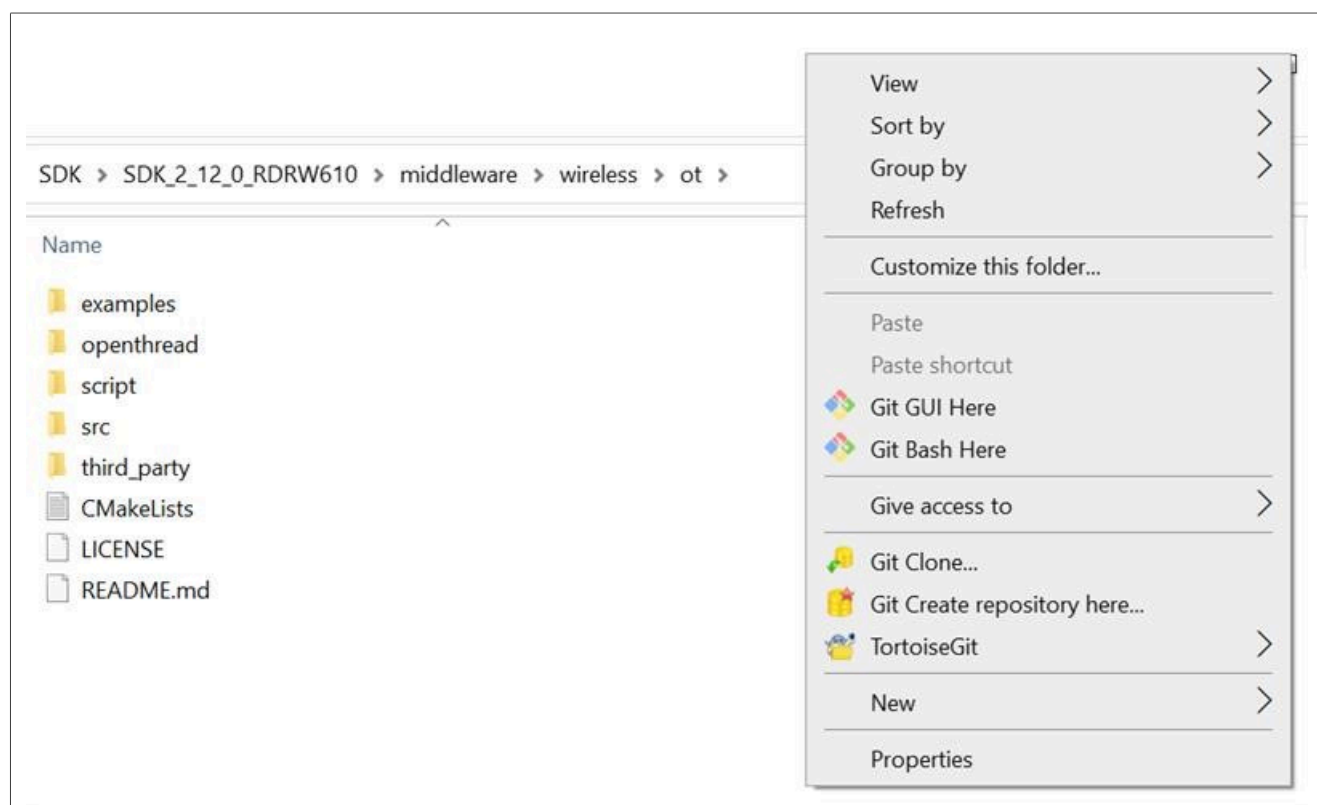

Figure 4. *Git Bash Here* in right-click menu of Windows Explorer
- Right click any directory and look for *Git Bash Here* in the menu (Figure 4).